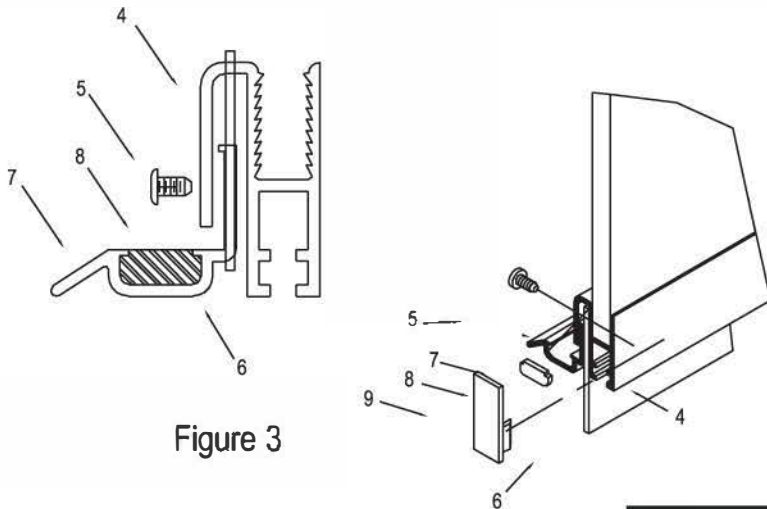

Figure 3
3. Apply bottom glazing vinyl (3) to the bottom of the glass. Hold bottom rail (4) in place against the bottom glazing channel and drive the bottom rail in place on the glass using the glazing block and a heavy steel hammer. Secure hinge rail to bottom rail using one #8 x 1 1/2" FH SMS screw. Start three #6 x 1/4" SMS B screws (5) into the bottom rail. Insert the splash vinyl (6) and the drip trough (7) into the bottom rail. Splash vinyl should flush off with latch end of bottom rail and butt to offset of the hinge rail at the other end. Flush-off drip trough with notchback on bottom rail at latch side. Push drip trough as far up as possible on latch side and as low as possible on hinge side and secure by tightening the three #6 x 1/4" SMS B screws (5).
4. Insert the drip plug (8) into the end of the drip trough at the handle side. Water should now drain back into the shower when the door is open. Insert the bottom rail end cap (9) in the end of the bottom rail (4) (See Figure 3).